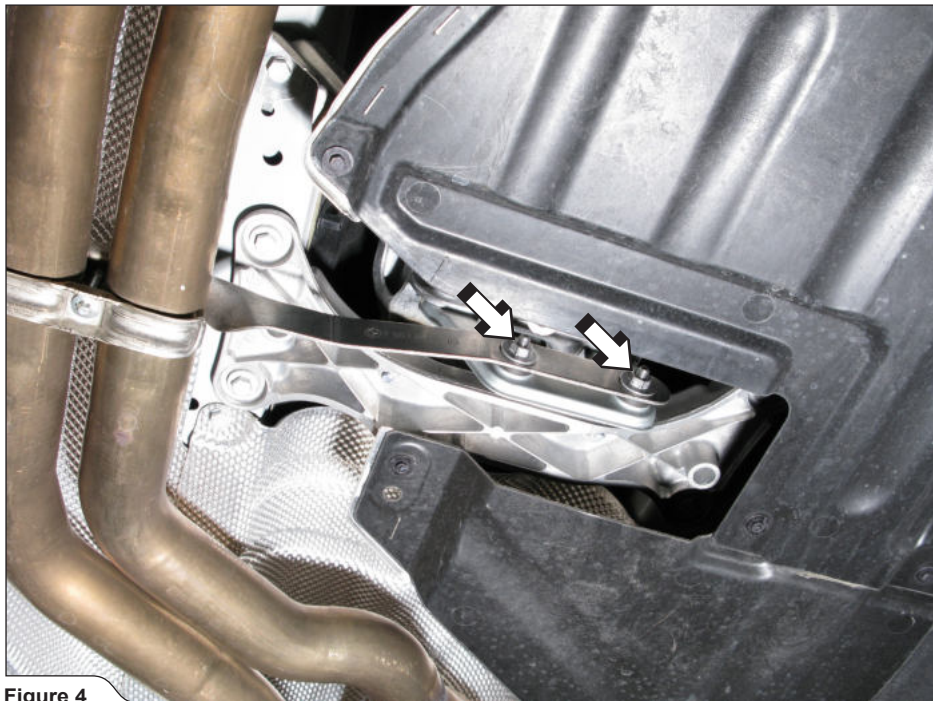

Figure 4
4. **For Evolution:** unscrew the link pipes' bracket (**Figure 4**).